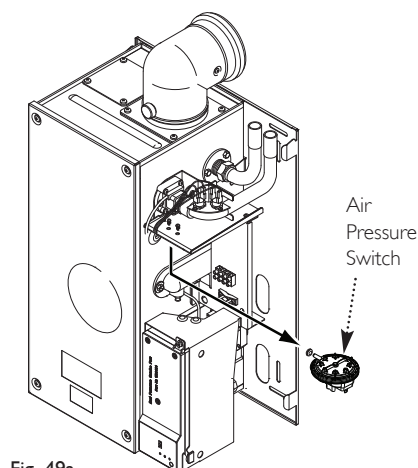

Fig. 49a
15.5 Air Pressure Switch (Fig. 49a)